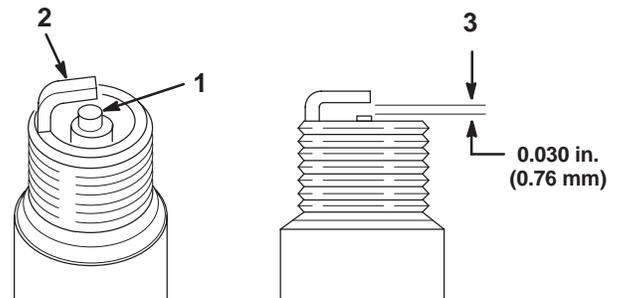

Figure 25
- Look at the center of the spark plugs (Fig. 25). If you see light brown or gray on the insulator, the engine is operating properly. A black coating on the insulator usually means the air cleaner is dirty.
- Check the gap between the center and side electrodes (Fig. 25).
- Bend the side electrode (Fig. 25) if the gap is not correct.